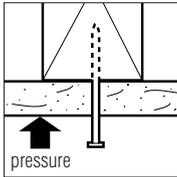

Fig. 18
**Remedy:** With nail attachment, during final blows of hammer, apply additional pressure with hand to panel adjacent to nail (Fig. 18) to bring panel into contact with framing.